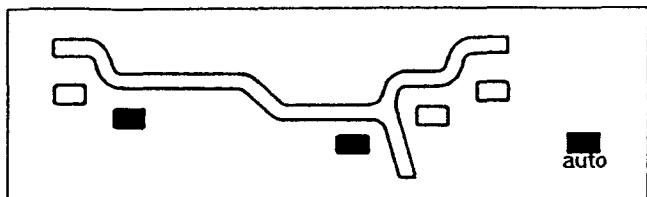

Fig.38
**H. AUTO ALU4.** The wheel weights position is as indicated in Fig.38. In this case use hidden tape weights.